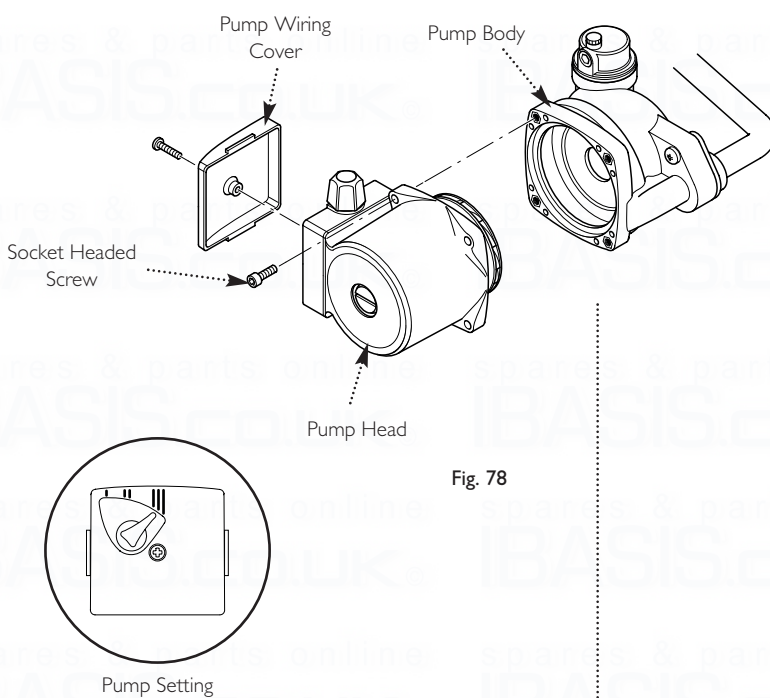

Fig. 79
3. A standard replacement Grundfos 15-60 head can now be fitted. Connect the pump wiring to the new head. **The pump speed must be set to 3** (Fig. 79).